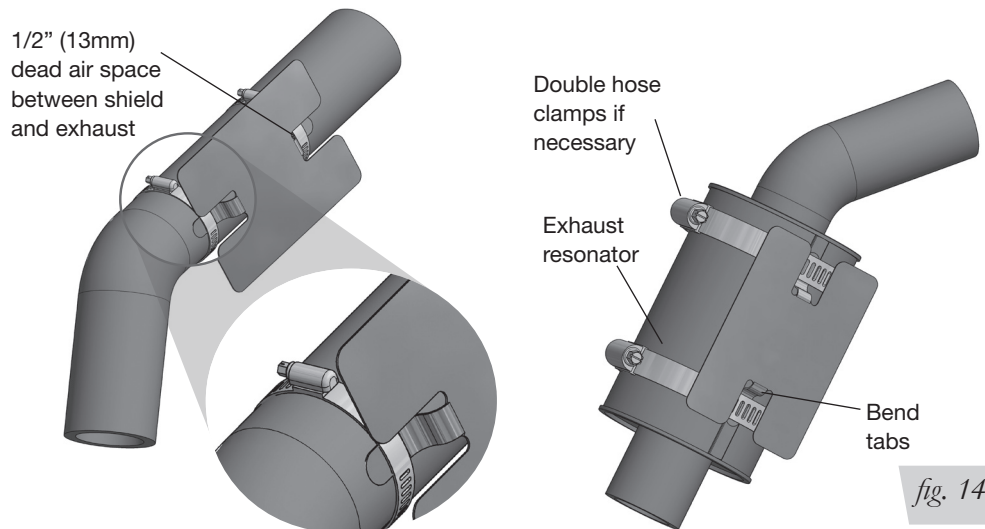

fig. 14
1. Attach the metal heat shield to the exhaust where it is closest to the passenger's (right) side air spring. Slide the air line thermal sleeve over the air line and position it where the air line is closest to the exhaust. (Fig. 14).